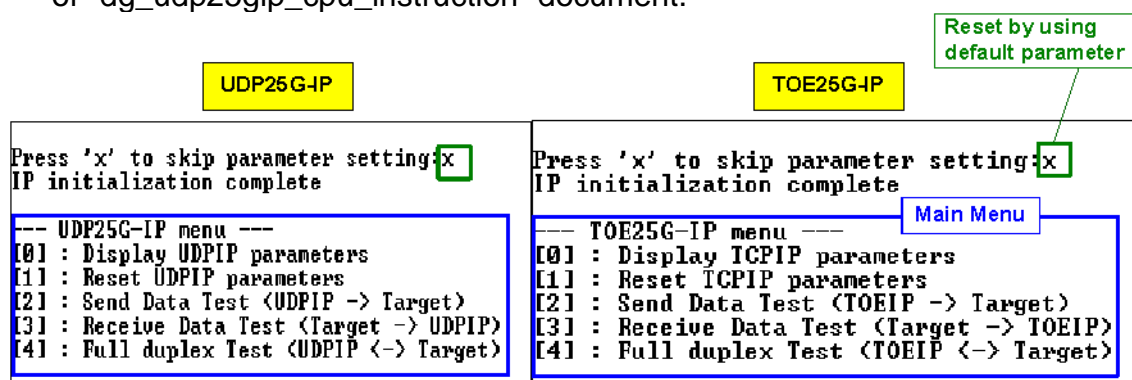

Figure 2-11 Initialization complete
- iv) User enters 'x' to skip parameter setting for using default parameters to begin system initialization, as shown in Figure 2-11. If user enters other keys, the menu for changing parameter is displayed, similar to "Reset TCPIP/UDPIP parameters" menu. The example when running the main menu is described in "dg_toe25gip_cpu_instruction" or "dg_udp25gip_cpu_instruction" document.